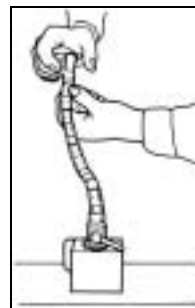

Fig. 3
- To clamp the pole, rotate the adjusting sleeve to temporarily adjust it so that the pole can be clamped with the handle at the clamping position. (see Fig. 3)